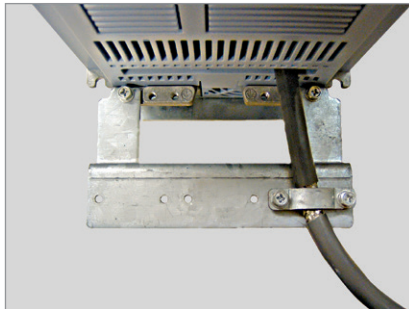

Figure 3.15 - Detail of the motor cable shield connection with the accessory PCSx-01 installed
- Cable shielding shall be grounded at both ends (inverter and motor). Use 360° connections for a low impedance to high-frequencies. Refer to Figure 3.15 on page 3-26.
There is an option accessory for frame sizes A, B, and C with degree of protection IP2X named "Kit for power cables shielding – PCSx-01" (refer to Section 7.2 ACCESSORIES on page 7-3) that can be adapted in the bottom of the enclosure of these frames. See an example of the cable connection with the accessory PCSx-01 in Figure 3.15 on page 3-26. The kit for power cables shielding is provided for the inverters with internal RFI filters (CFW11XXXXXOFA).
When the "Conduit Kit" (refer to Section 7.2 ACCESSORIES on page 7-3) is used for frame sizes A, B, and C, motor cable shield shall be grounded similarly as in Figure 3.15 on page 3-26.